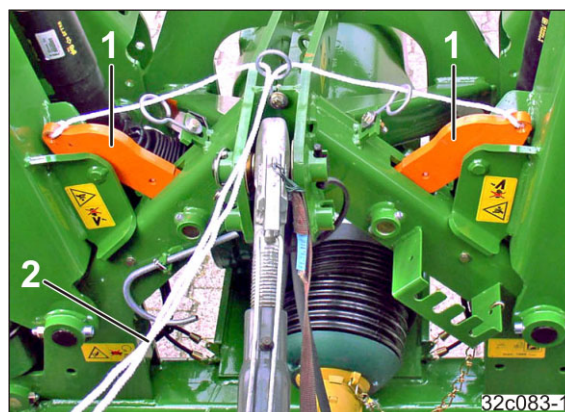

Fig. 107
2. Open the bars (Fig. 107/1) by actuating the cables (Fig. 107/2) from the tractor seat.
4. The inner carrying arms lock automatically. The locking element (Fig. 107/1) prevents collision of the distributor heads during sowing rail operation.